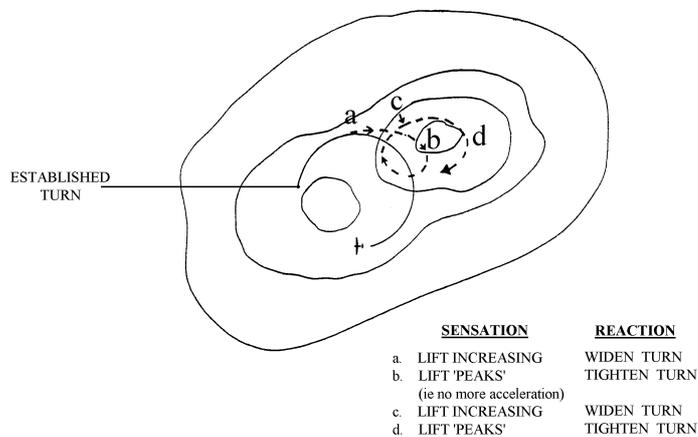
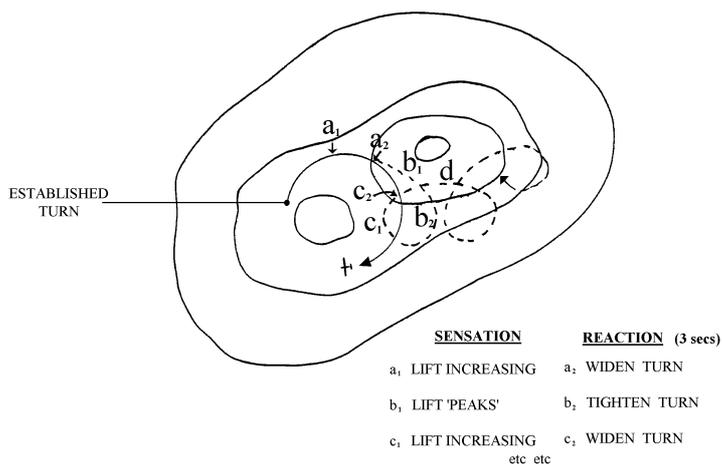

FIG 7. - RECENTRING
FIG 8 - RECENTRING TOO LATE
10. This skill involves slackening and tightening the turn often by only very small amounts - say a few yards shift in the course of the quarter turn - and it rarely amounts to what the novice would consider to be a re-centring manoeuvre. As he senses the lift beginning to increase - upwards **acceleration** (Fig. 7) - he widens the turn, perhaps by reducing his angle of bank by 10 or 15°. As the lift peaks - upwards **acceleration** ceases - he quickly tightens the turn again. After all, if he is in the best lift, then by definition, since he can't stop the aircraft in mid air, he must be about to leave it again. So he tightens the turn to stay as close into the core as possible. Timing of the small adjustments is all important. Fig 8 shows what would happen if all the responses were delayed by about 3 seconds. The centre of successive turns would shift round and round the perimeter of the core and the glider would never get centred. As well as that of the pilot the response time of the glider may be significant. A fully ballasted aircraft cannot roll very quickly, and on a day of rough "difficult" thermals it may be better to dump water and sacrifice enhanced speed in the glide in order to improve centring and climbing ability. Also in order to make smooth and properly co-ordinated corrections a glider must not be flown too slowly. The temptation to fly at less than minimum sink speed in order to reduce the radius of the turn should be resisted until the pilot is satisfied he is really centred. And the best pilot is rarely satisfied!